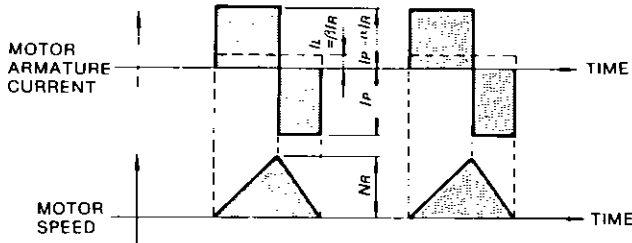

Fig. 4.4 Timing Chart of Motor Armature Current and Speed
- When the motor remains at standstill between cycles of acceleration and deceleration without continuous rated speed running (Fig. 4.4).
The timing chart of the motor armature current and speed is as shown in Fig. 4.4. The allowable frequency of operation "n" can be calculated as follows :